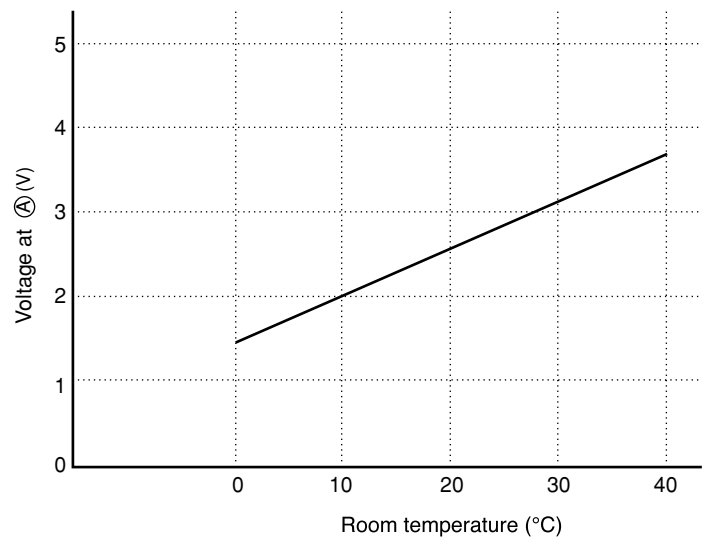

Fig. 4-2
- The voltage at Ⓐ depends on the room temperature as shown in Fig. 4-2.